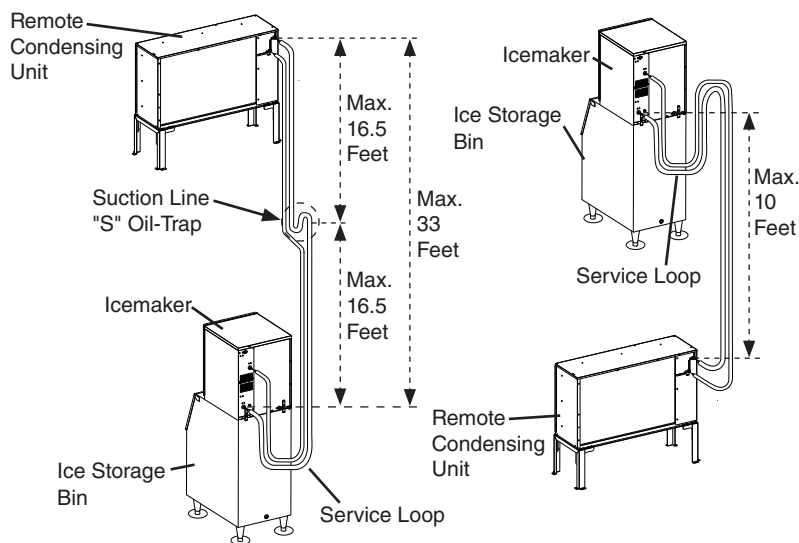

Fig. 1
- The maximum vertical distance between the remote condensing unit and icemaker is 33' (10 m) above or 10' (3 m) below the icemaker. These distances are measured fitting to fitting. See Fig. 1.